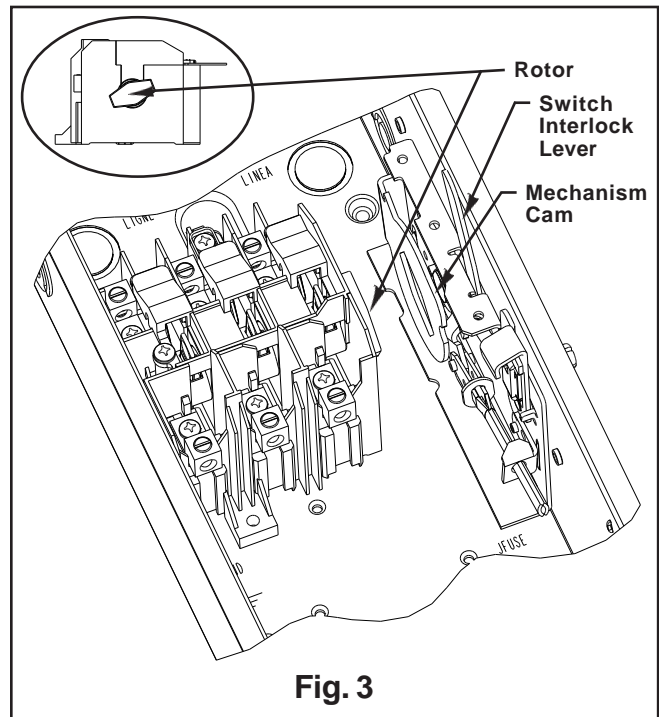

Fig. 3
11. Install replacement line base. Making sure that the moveable contacts are visible (switch in OFF position), slide line base to the right, inserting line base rotor into mechanism cam. **(See Figure 3)**. Install mounting screws and torque to 29 lb-ins. **(See Figure 2)**
16. **While power supplying switch is still OFF**, check switch operation. Cycle mechanism while checking for smooth switch operation and moveable contact movement. (Hold switch interlock lever below the front of the enclosure to operate switch with the door open on Heavy Duty Switches.) **(See Figure 3)** If switch does not operate in a smooth manner, or if there are any questions about replacement kit installation, contact Customer Service 1-800-241-4453.